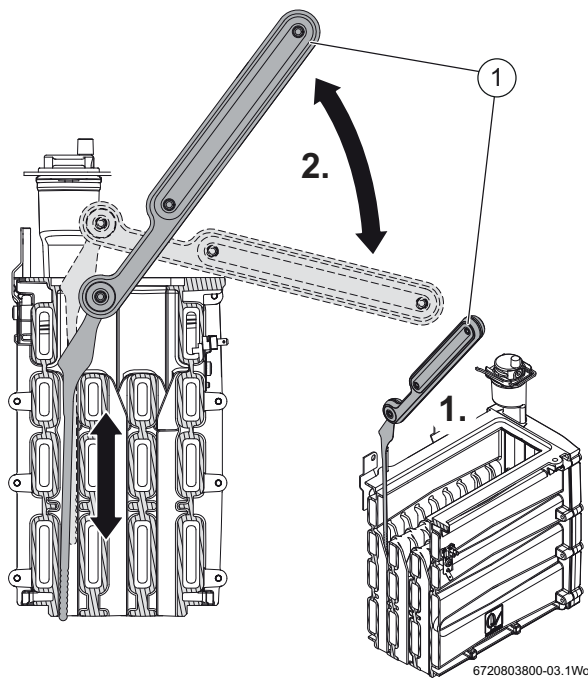

Fig. 73 Heat exchanger cleaning tool
1. Orient the cleaning tool (2) as shown in figure 73 and insert the tool into the rear or middle channels for cleaning.